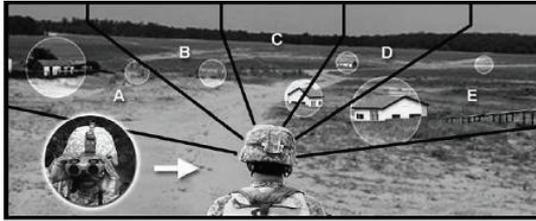

Figure 071-331-0804-5. Detailed
- (3) Use detailed search technique (figure 071-331-0804-5).